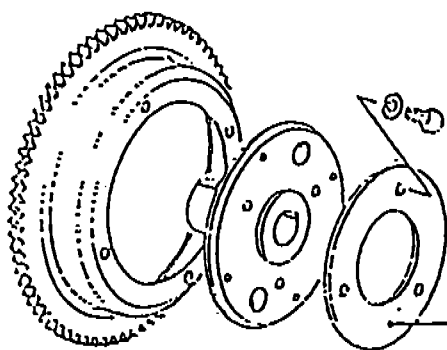

Fig. 1
- 1) Take off cover washer, if installed (fig. 1, see 1.1. on page 3).